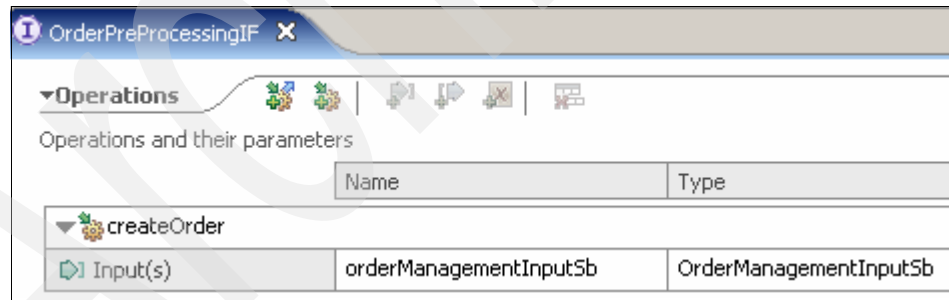

Figure 4-8 OrderPreProcessingIF Interface
4. Change the operation name to createOrder. Then, change the Input name to orderManagementInputSb, and select the **OrderManagementInputSb** business object as the type. See Figure 4-8.